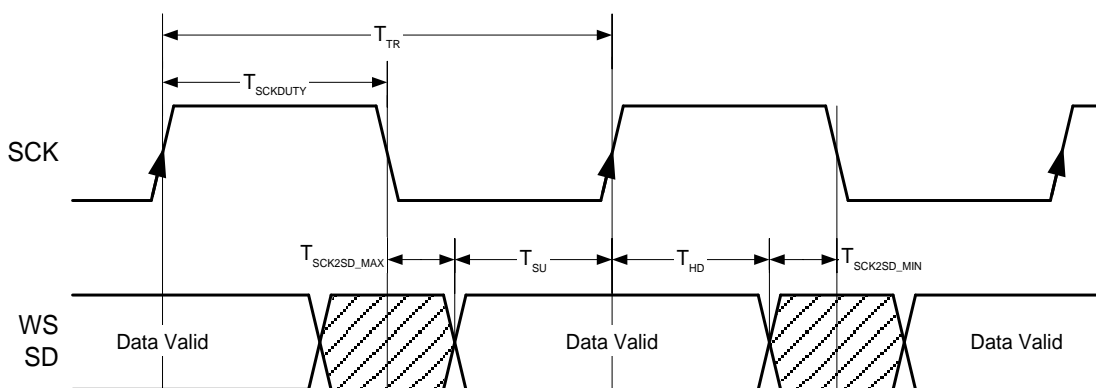

Figure 5.6. I²S Output Timings
1. Refer to Figure 5.6. Meets timings in Philips I²S Specification.
Valid serial data is available at T_{sck2sd} after the falling edge of the first SCK cycle, and then captured downstream using the active rising edge of SCK one clock period later. The setup time of data to SCK (T_{SU}) and hold time of SCK to data (T_{HD}) are therefore a function of the worst case SCK-to-output data delay (T_{sck2sd}). Figure 5.6 illustrates this timing relationship. The active SCK edge (rising edge) is shown with an arrowhead. For a falling edge sampling clock, the logic is reversed.